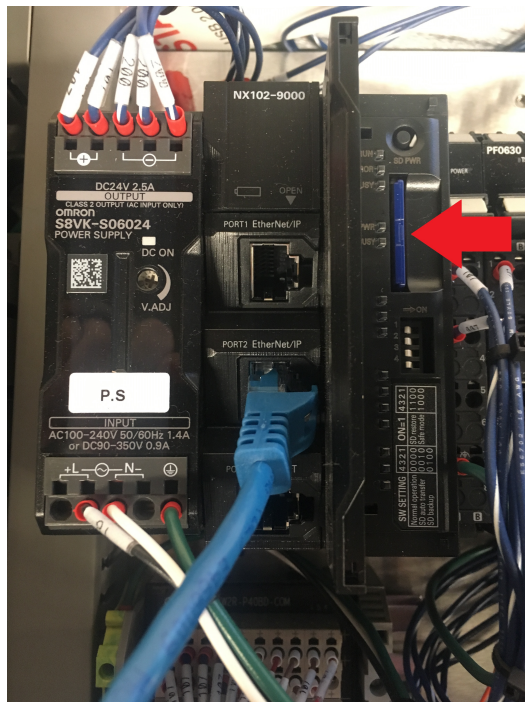

Figure 15: PLC Location - Open
4. Gently push down on the SD card (Figure 15) and it will pop up. Then remove the SD card.